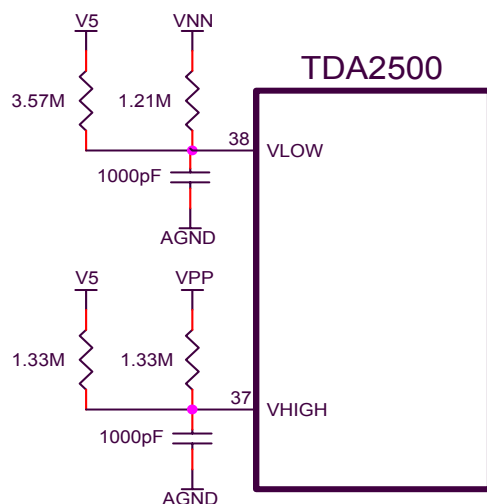

Figure 8: Voltage Supply Sensing Structure for TA0104A Emulation
- Add the resistor dividers to both VLOW and VHIG as shown in Figure 8. These resistors lower the supply range of the TDA2500 to roughly +/-60V to +/-93V, with a maximum undervoltage turn on voltage of +/-55V, assuming worse case tolerances. It should be noted that the TA0104A voltage specification of +/-55V to +/-92V were the undervoltage and overvoltage turn on points, not the inner hysteresis band. The “hot side” of the VNN and VPP resistors should be connected to pin 24 and pin 23, respectively. Surface mount types can be used (1/8W is fine) though the resistors need to 1% tolerance. Please note that the recommended resistor values are slightly different than those used in the TA0104A. This was done intentionally to produce a symmetrical supply range for VPP and VNN.